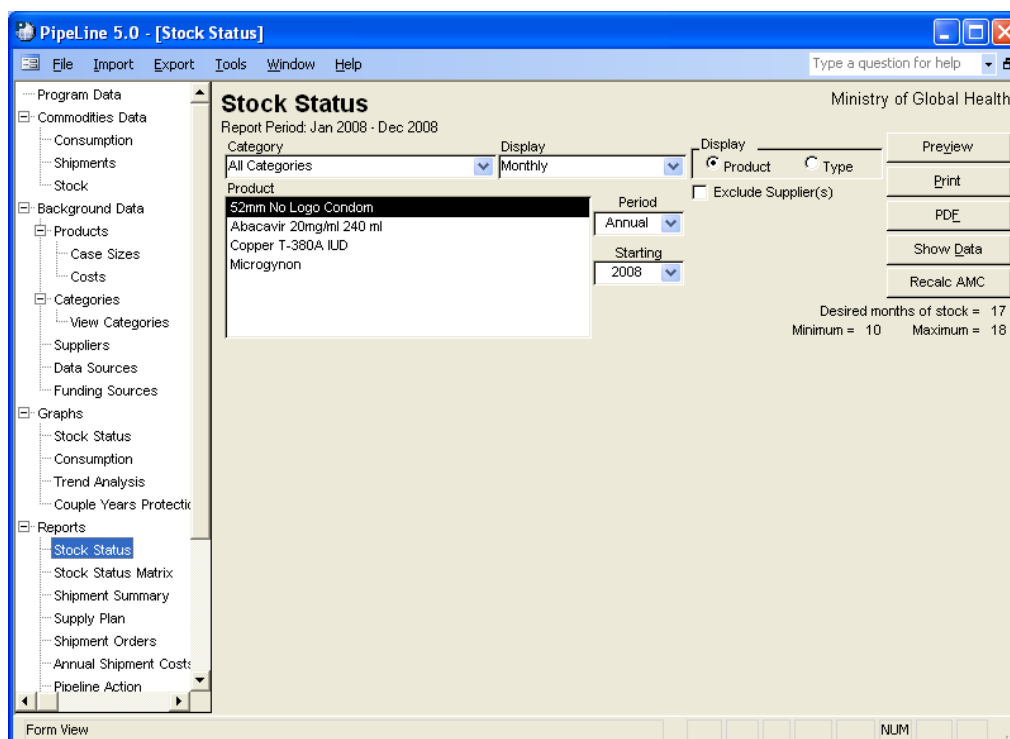

Figure 30—Stock Status screen
1. Click on the Stock Status Tree View option (under Reports) to display the Stock Status screen (see Figure 30).